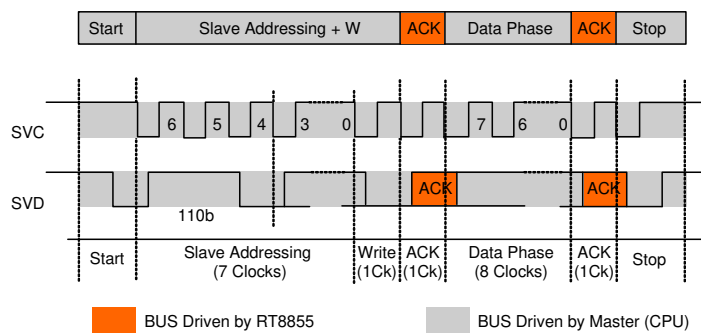

Figure 1. SVI Communication-Send Byte
Figure 1. SVI interface also consider two additional signals needed to manage the system start-up. These signals are EN and PWROK. The device asserts a PGOOD signal if the output voltages are in regulation.
The Set VID Command is defined as the command sequence that the CPU issues on the SVI bus to modify the voltage level of the Core section and NB section, as shown is Figure 1. During a Set VID Command, the processor sends the start (Start) sequence followed by the address of the Section which the Set VID Command applies. The processor then sends the write (WRITE) bit. After the write bit, The Voltage Regulator (VR) sends the acknowledge (ACK) bit. The processor then sends the VID bits code during the data phase. The VR sends the acknowledge (ACK) bit after the data phase. Finally, the processor sends the stop (Stop) sequence. After the VR has detected the stop, it performs an On-the-Fly VID transition for the addressed section(s). Refer to Table 3 for the details of SVI send byte.